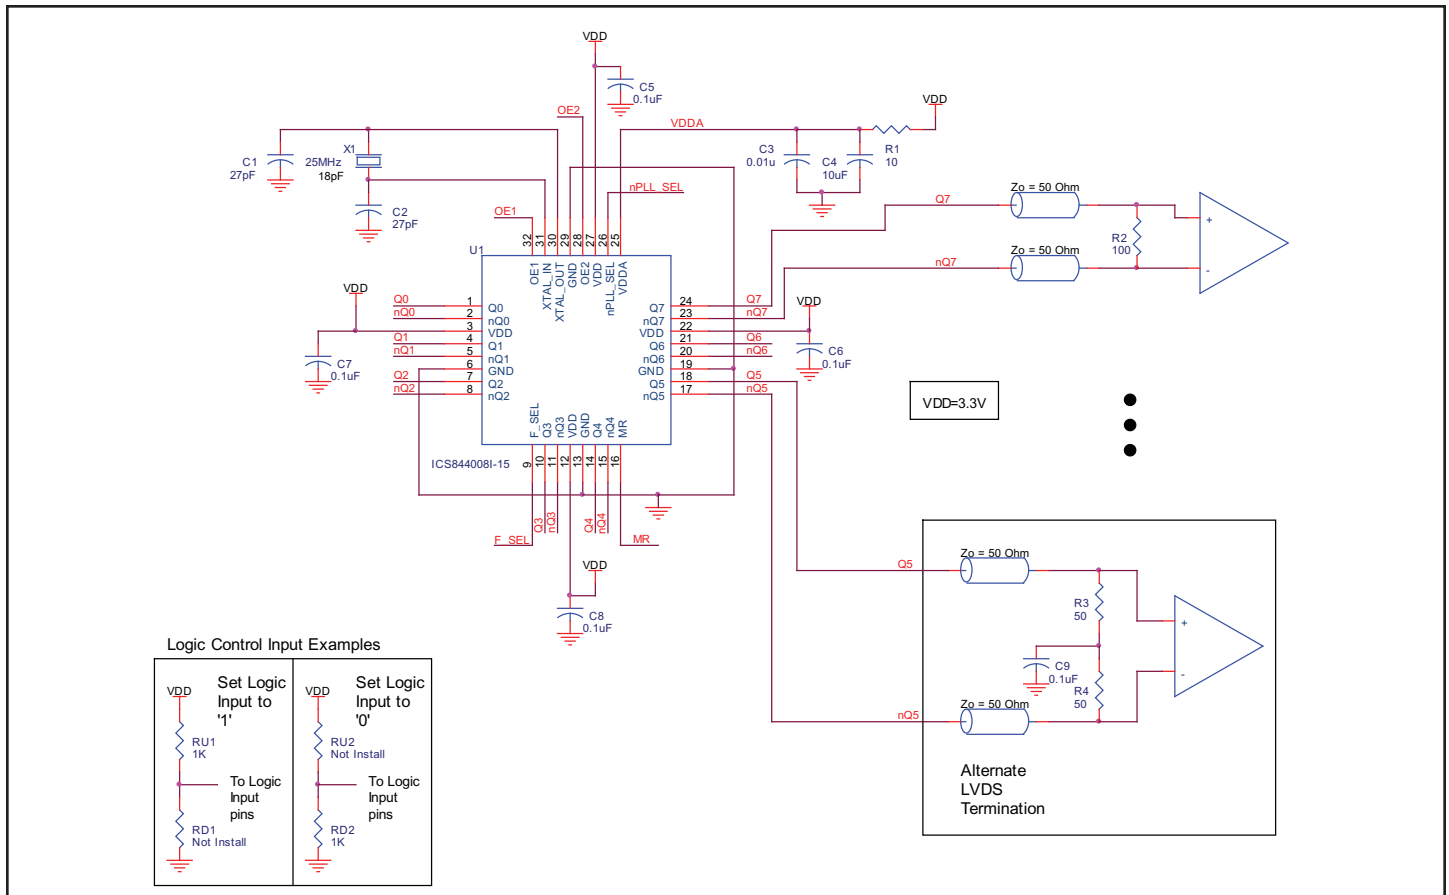

FIGURE 4. 844008I-15 SCHEMATIC EXAMPLE
*Figure 4* shows an example of 844008I-15 application schematic. In this example, the device is operated at  $V_{DD}=3.3V$ . The 18pF parallel resonant 25MHz crystal is used. The  $C1 = 27pF$  and  $C2 = 27pF$  are recommended for frequency accuracy. For